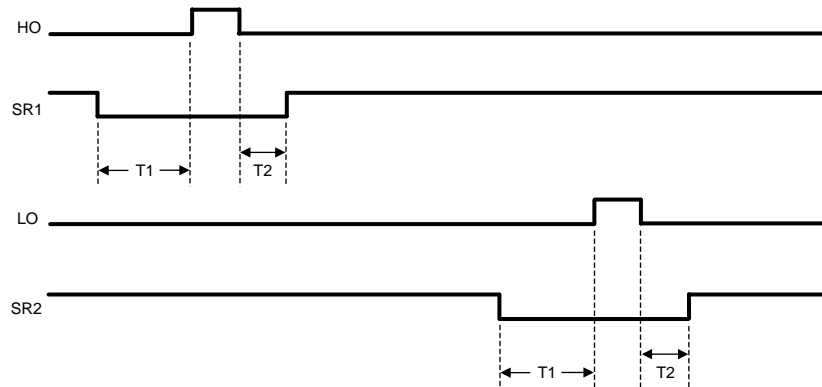

Figure 17. HO, LO, SR1 and SR2 Timing Diagram
Synchronous rectification (SR) of the transformer secondary provides higher efficiency, especially for low output voltage converters. The reduction of rectifier forward voltage drop (0.5V - 1.5V) to 10mV - 200mV  $V_{DS}$  voltage for a MOSFET significantly reduces rectification losses. In a typical application, the transformer secondary winding is center tapped, with the output power inductor in series with the center tap. The SR MOSFETs provide the ground path for the energized secondary winding and the inductor current. Figure 17 shows that the SR2 MOSFET is conducting while HO enables power transfer from the primary. The SR1 MOSFET must be disabled during this period since the secondary winding connected to the SR1 MOSFET drain is twice the voltage of the center tap. At the conclusion of the HO pulse, the inductor current continues to flow through the SR1 MOSFET body diode. Since the body diode causes more loss than the SR MOSFET, efficiency can be improved by minimizing the T2 period while maintaining sufficient timing margin over all conditions (component tolerances, etc.) to prevent shoot-through current. When LO enables power transfer from the primary, the SR1 MOSFET is enabled and the SR2 MOSFET is off.
The timing of SR1 and SR2 with respect to HO and LO is shown in Figure 17. SR1 is configured out of phase with HO and SR2 is configured out of phase with LO. The deadtime between transitions is programmable by a resistor connected from the DLY pin to the AGND pin. Typically,  $R_{DLY}$  is set in the range of 10k $\Omega$  to 100k $\Omega$ . The deadtime periods can be calculated using the following formulae:
The RDLY resistor programs the delays between the SR1 and SR2 signals and the HO and LO driver outputs. Figure 17 shows the relationship between these outputs. The DLY pin is nominally set at 2.5V and the current is sensed through RDLY to ground. This current is used to adjust the amount of deadtime before the HO and LO pulse (T1) and after the HO and LO pulse (T2). Typically RDLY is in the range of 10kΩ to 100kΩ. The deadtime periods can be calculated using the following formulae: